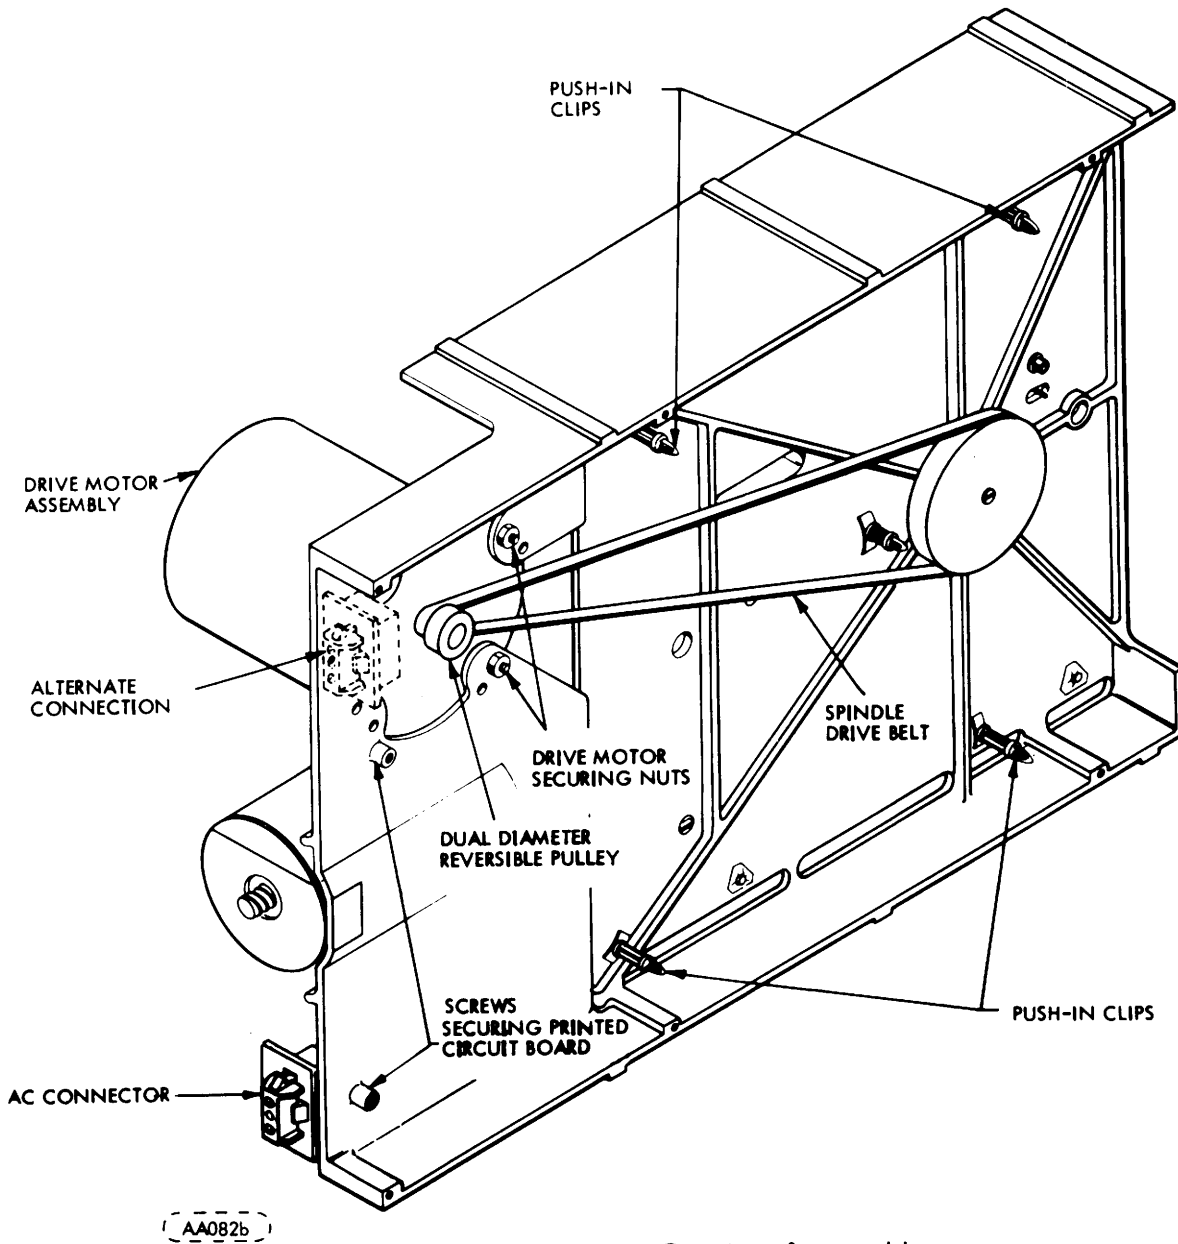

Figure 6-19. Base Casting Assembly
- c. Remove two screws from printed circuit board adjacent to connector J1 (Figure 6-19).
- d. Remove PWA by detaching it from the four push-in clips shown in Figure 6-19.
- c. Remove AC connector from bracket. (Figure 6-19)
- d. Remove spindle drive belt (Figure 6-19).
- e. Remove three (3) nuts securing drive motor (Figure 6-19).
This procedure should be used to convert the FDD unit from 60 Hz operation to 50 Hz operation or vice versa. This is accomplished by reversing the dual diameter reversible pulley on the spindle motor shaft (Figure 6-19) using the following steps: